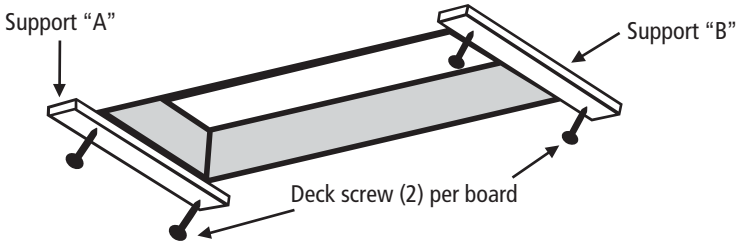
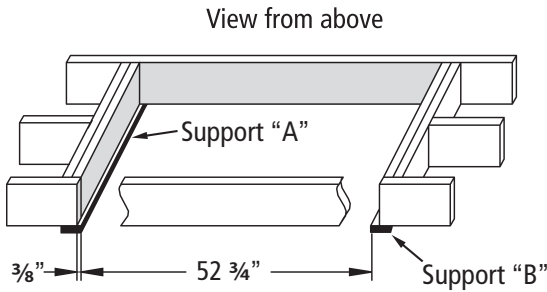

FIGURE 3: View from below
FIGURE 4: View from above
- A. Attach temporary supports "A" and "B" with 2 ½" deck screws as shown in Figure 3. Support "A" should be located at the end where the door hinge of the ladder will go. The edge of support "A" should extend into the rough opening ⅜" as shown in Figure 4. Make sure both screws penetrate header above ceiling.
- B. Measuring from the inside edge of support "A", locate and secure the inside edge of support "B" 52 ¾" from inside edge of support "A" (Figure 4). Make sure both screws penetrate header above ceiling.